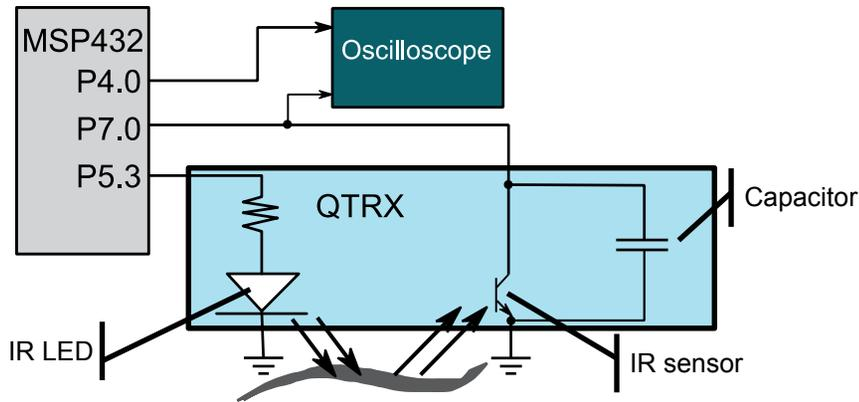

Figure 9. Hardware configuration for one sensor.
We will use P5.3 as an output, connected to the EVEN IR pin of the line sensor. P5.3 turns on the infrared (IR) LED for sensors on P7.3, P7.2, P7.1 and P7.0. P7.0 is connected to one of the right most sensor of the QTRX, and P4.0 is set as a digital output (used in this section for testing). See Figure 9. In particular, the goal of this section is to observe how the reflectance of the given surface affects the voltage on P7.0, and how the microcontroller converts the voltage on P7.0 into binary data depending on the color of the reflective surface.